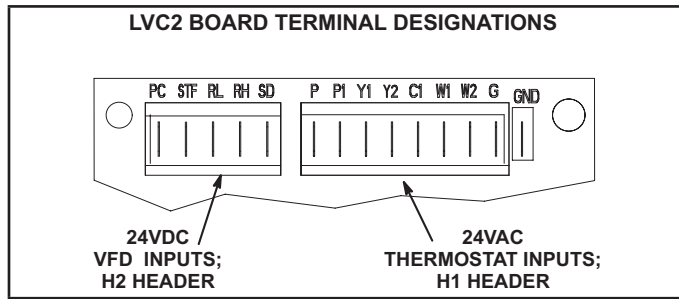

FIGURE 7
- 3 - Check for 24VAC signal at the thermostat blower input (G to GND terminal). See FIGURE 7.